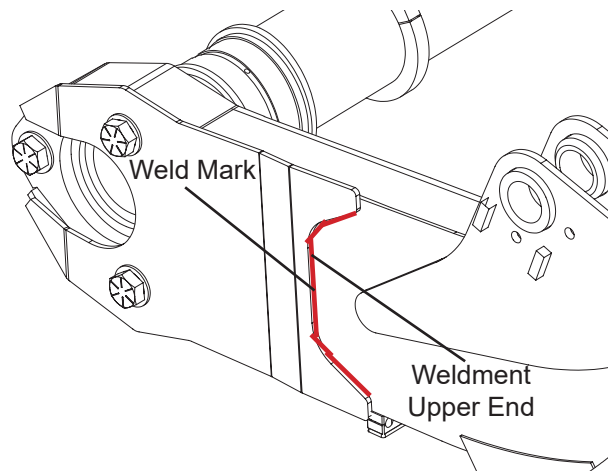

Figure 3
6. Temporarily hold one of the arm base reinforcement weldments to the arm (with the spacers on the weldment facing toward the arm), align the holes using the new bolts and mark the weldment upper end as shown in Figure 3.